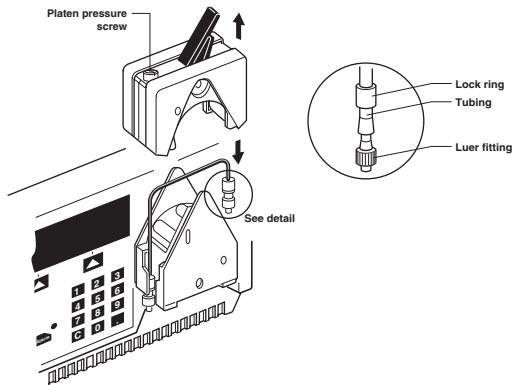

Fig. 1. Biologic LP setup
1. Install 1.6 mm ID tubing in the pumphead. Adjust platen pressure screw (on pumphead). Using a screwdriver or coin, turn the screw counterclockwise as far as it will go, then turn clockwise three full turns. Assemble with fittings and lock rings as shown in Figure 1.